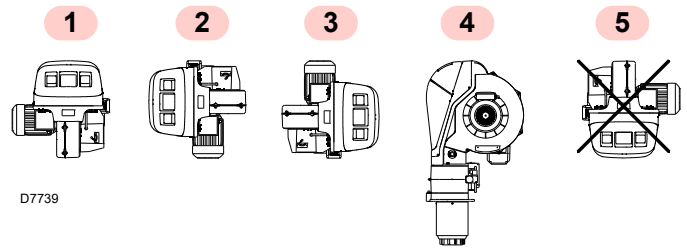

Fig. 9
- The burner is designed to work only in positions 1, 2, 3 and 4 (Fig. 9).